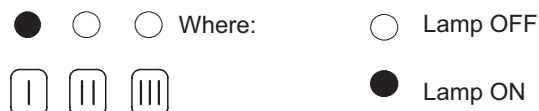

Figure 8.7
- 8 The lamps F should give the indication as in Figure 8.7 (useful output, first step). If not, press the reset button repeatedly to obtain it.